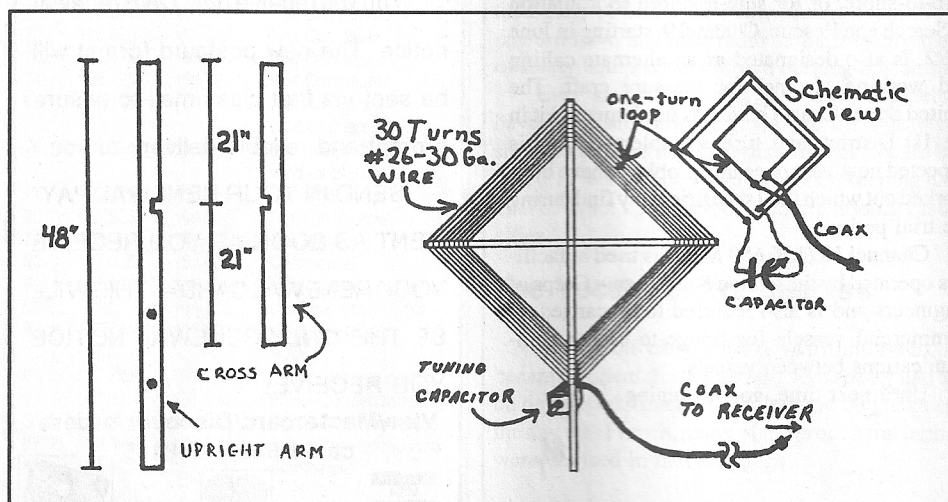

Figure 1: Loop Construction Detail
- 1) Place a notch in each of the wood supports and fit the two pieces together to form the loop frame. Use a couple drops of glue to hold the joint together. Drill two small holes in the upright arm as shown in Figure 1.